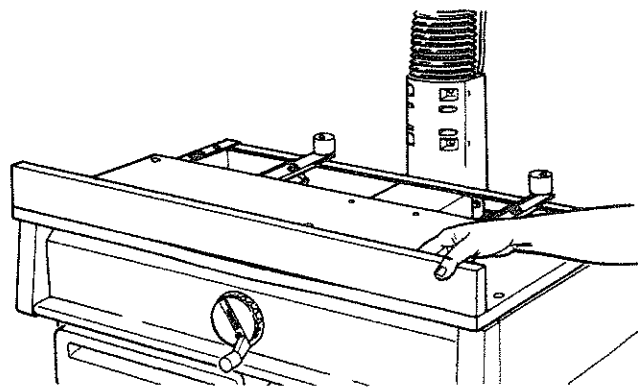

Fig. 101
22. If you see a gap larger than $\frac{1}{32}$ inch, tighten the center *mounting screw* and/or the *leveling screws* until the gap is gone. Use a $\frac{1}{8}$ inch Hex-L wrench to tighten the *leveling screws*. (Figure 101)